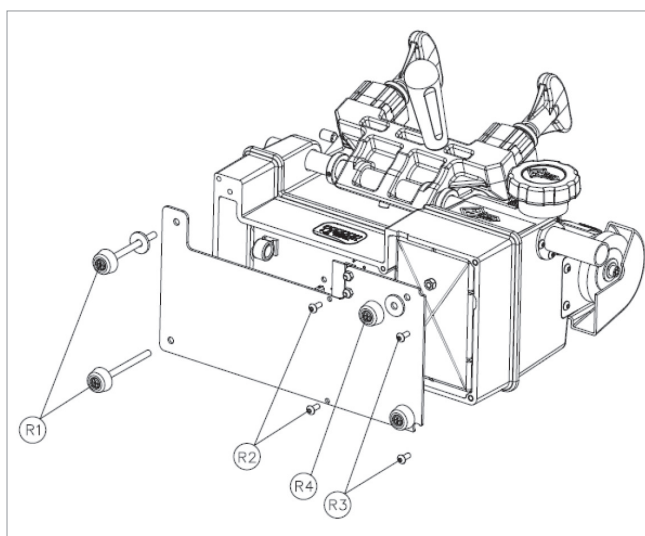

Fig. 13
- 2) To remove the Bottom Plate, loosen and remove the front screws (R1), (R2) and (R3) (Fig. 13).
- 3) Loosen screw (R4) from the bottom plate (Fig. 13).